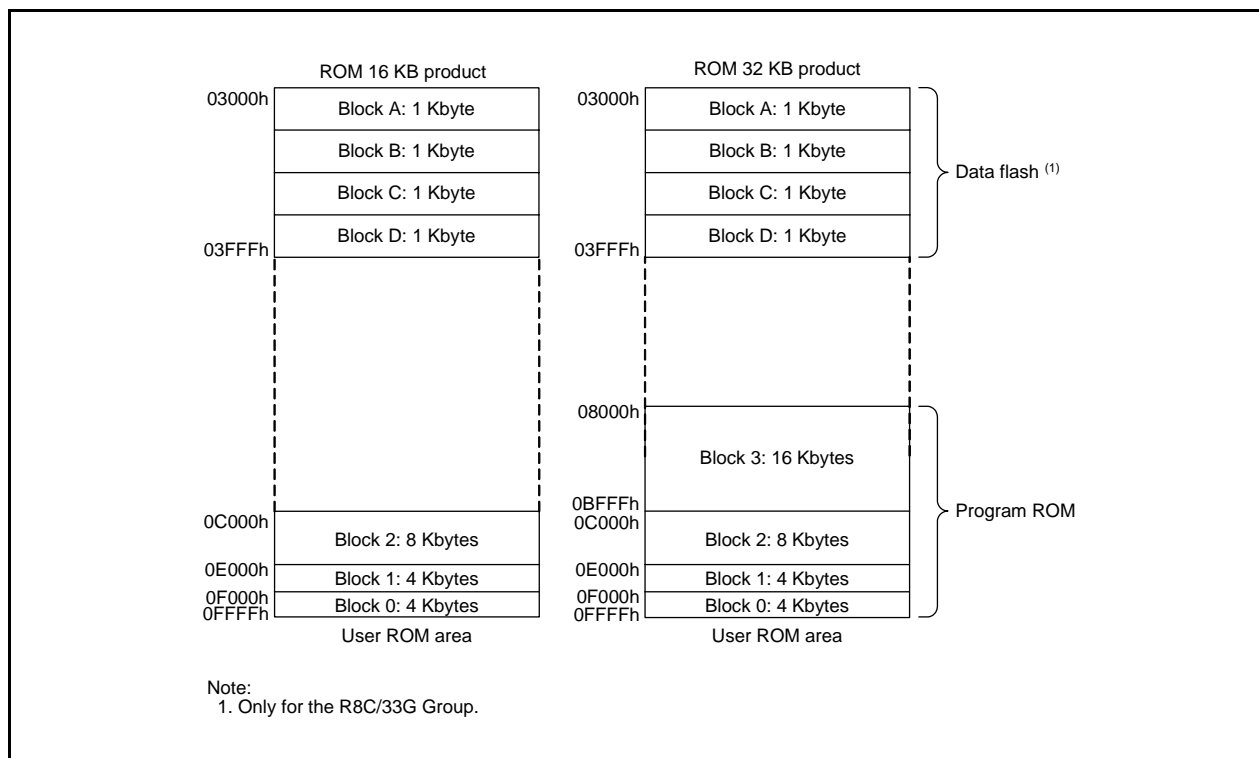

Figure 28.1 R8C/33G Group, R8C/33H Group Flash Memory Block Diagram
3. The number of blocks and block division vary with the MCU. Refer to **Figure 28.1 R8C/33G Group, R8C/33H Group Flash Memory Block Diagram** for details.
- The number of blocks and block division vary with the MCU. Refer to **Figure 28.1 R8C/33G Group, R8C/33H Group Flash Memory Block Diagram** for details.
Figure 28.1 show the R8C/33G Group, R8C/33H Group Flash Memory Block Diagram.